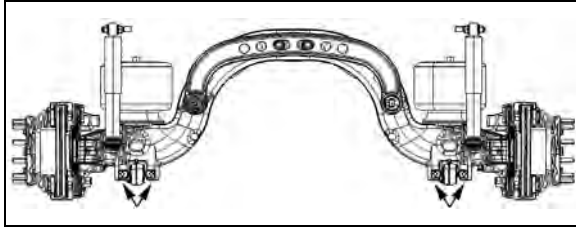

FIGURE 5: JACKING POINTS ON TAG AXLE 11023
1. Raise vehicle by its jacking points on the body (Figure 5) or see Section 18, "*Body*" under heading: "*Vehicle Jacking Points*". Place jack under frame.
4. Install jacks under tag axle jacking points to support the axle weight (Figure 5).